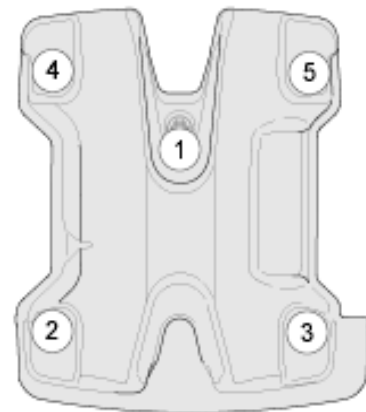

Figure 4-10. Cylinder Head Cover
8. Install Valve covers, install Alternator access cover. Follow Figure 4-10 for valve cover tightening sequence.